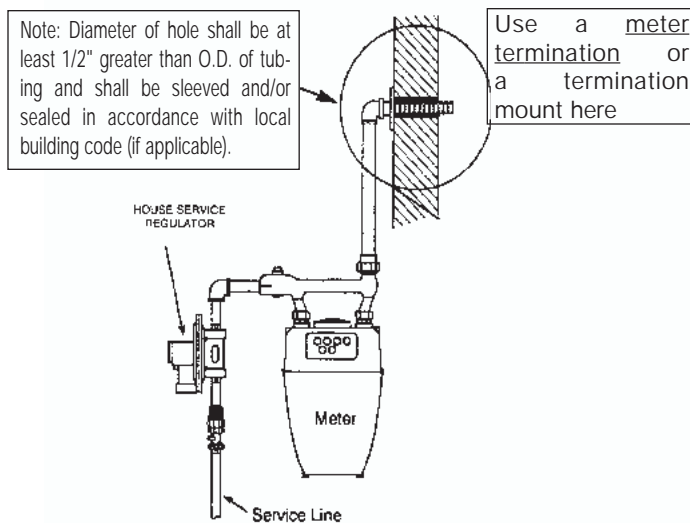

Figure 4-8
1. Meters which depend on the service and house piping for support shall not be directly connected to the flexible piping. Instead, use a meter termination fitting or termination mount fitting with steel pipe for the outdoor portion of the connection. For mounting of meters, all fastener locations should be used when installing the flange or mounting plate. (Figure 4-8)